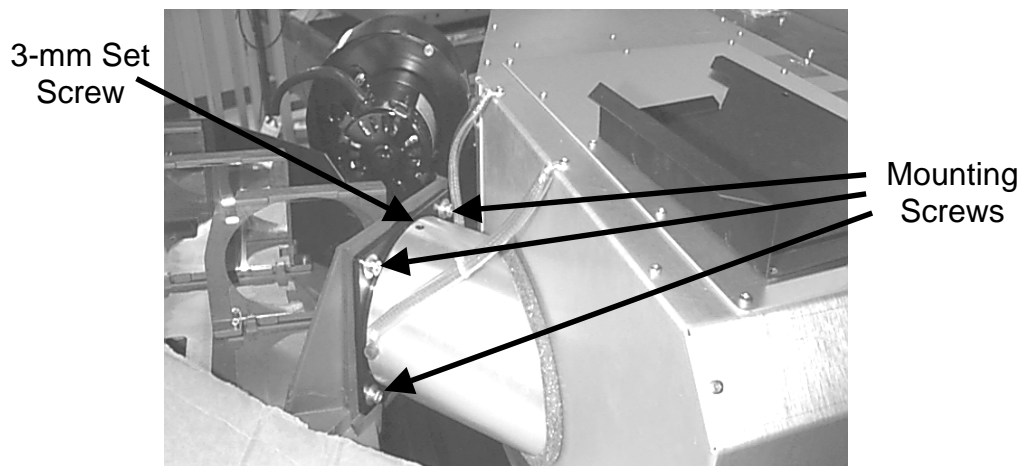

Figure 4-6 Collimating Lens Adjustment (shown on Model 370SC)
CAUTION! This adjustment can be sensitive and should not be attempted unless all other measures have been tried first. To do this, loosen the three (3) mounting screws on the rear of the condenser lens mount (see *Figure 4-6*) and move the collimating lens to orient the hot-spot (brightest area) to the center of the screen.